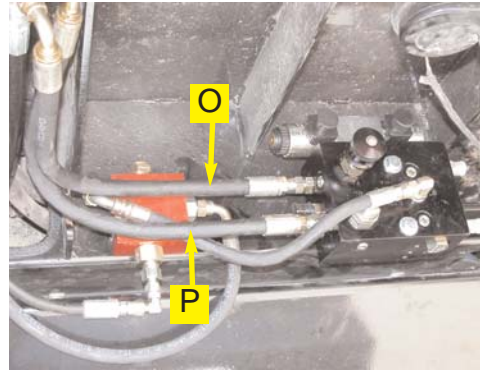

Figure 5a. Installed pressure and tank hose at block.
- a. Connect the pressure hose (**O**) from the **P** port of the Automated Steering Block and the run tee (**I**) installed on the steering orbital. (Figure 5a. and 5b.)
- b. Connect the tank hose (**P**) from the **T** port of the Automated Steering Block to the run tee (**H**) installed on the steering orbital. (Figure 5a. and 5b.)